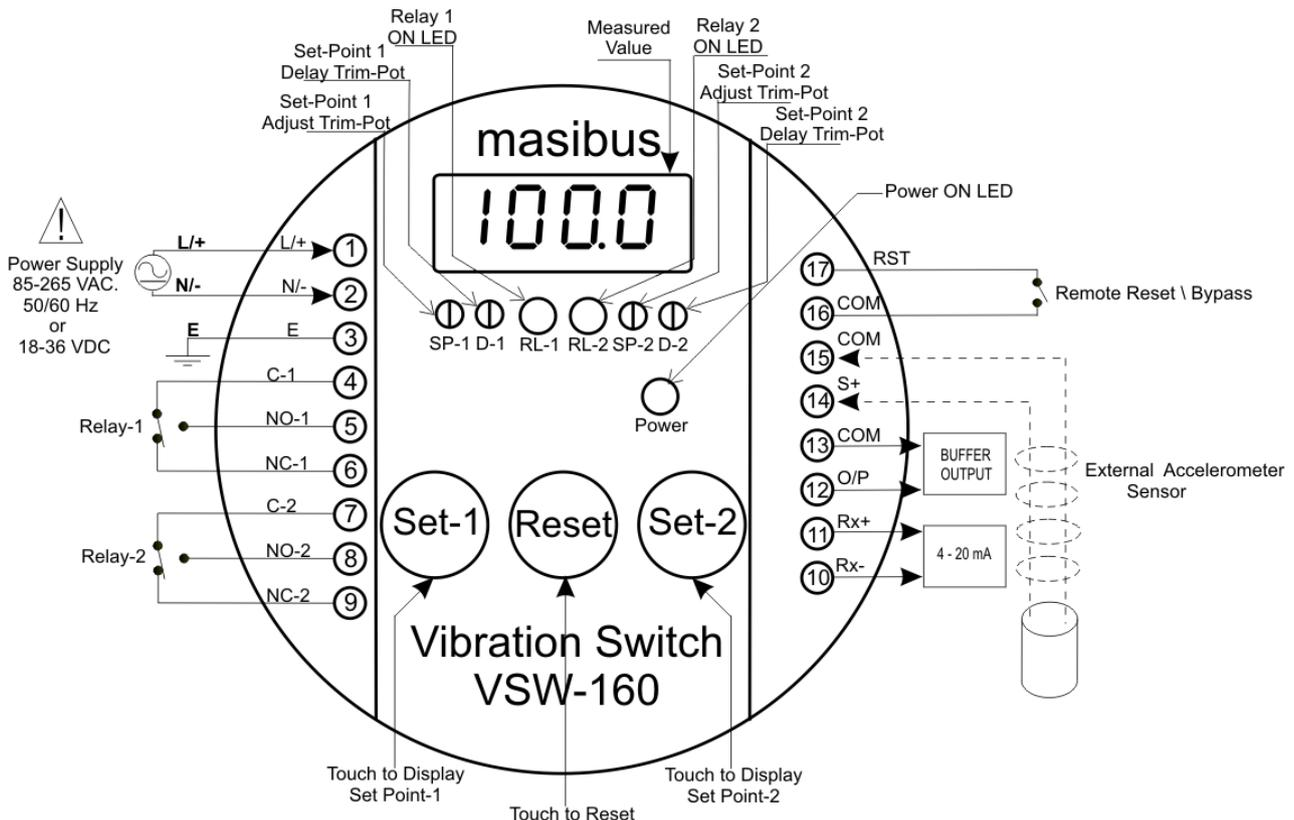

Figure 2 : Terminal connections
- See the Pots SP-1 and SP-2 in **Figure 2**. To fix the set point-1/set point-2 trim the trim pot SP-1/SP-2 (To increase set point trim the trim pot in clock wise direction and to decrease set point trim the trim pot in anti-clock wise).By pressing switch SW1 display will show setpoint-1 and adjust setpoint-1. Similarly for setpoint-2.